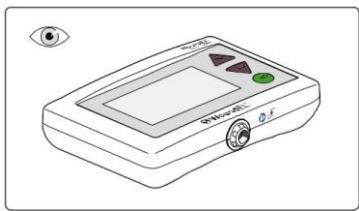

Figure 33. Check the device on all sides.
1. Check the WoundEL® device on all sides and the connection sockets for visible signs of dirt *see Figure 33.*